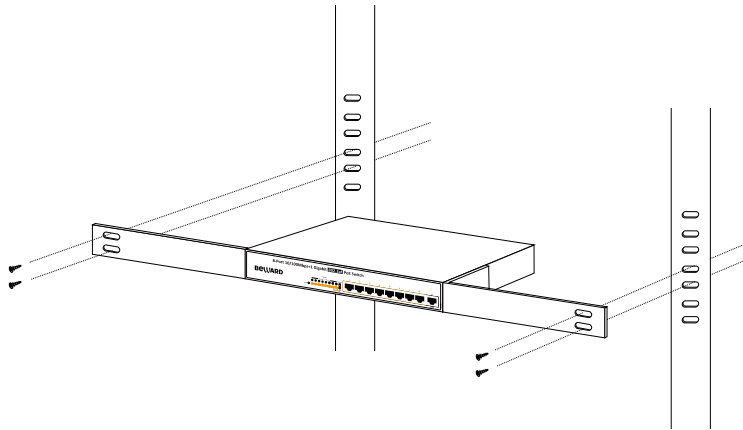

Figure 2-7: Mounting the PoE Ethernet Switch in a Rack
Step 5: After the brackets are attached to the PoE Ethernet Switch, use suitable screws to securely attach the brackets to the rack, as shown in Figure 2-7.